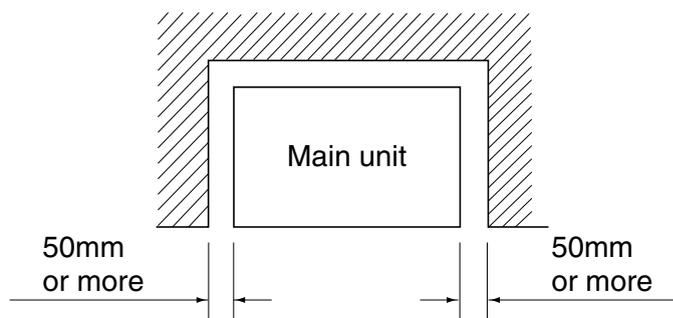

Fig. 2
(1) Select an installation site where the following conditions are fulfilled and that meets with your customer's approval.
- Where nothing blocks the air inlet and outlet, and where sufficient clearance for maintenance and service can be ensured. **(Refer to Fig.2)** (If not ensured, the capacity may drop due to short circuit.)